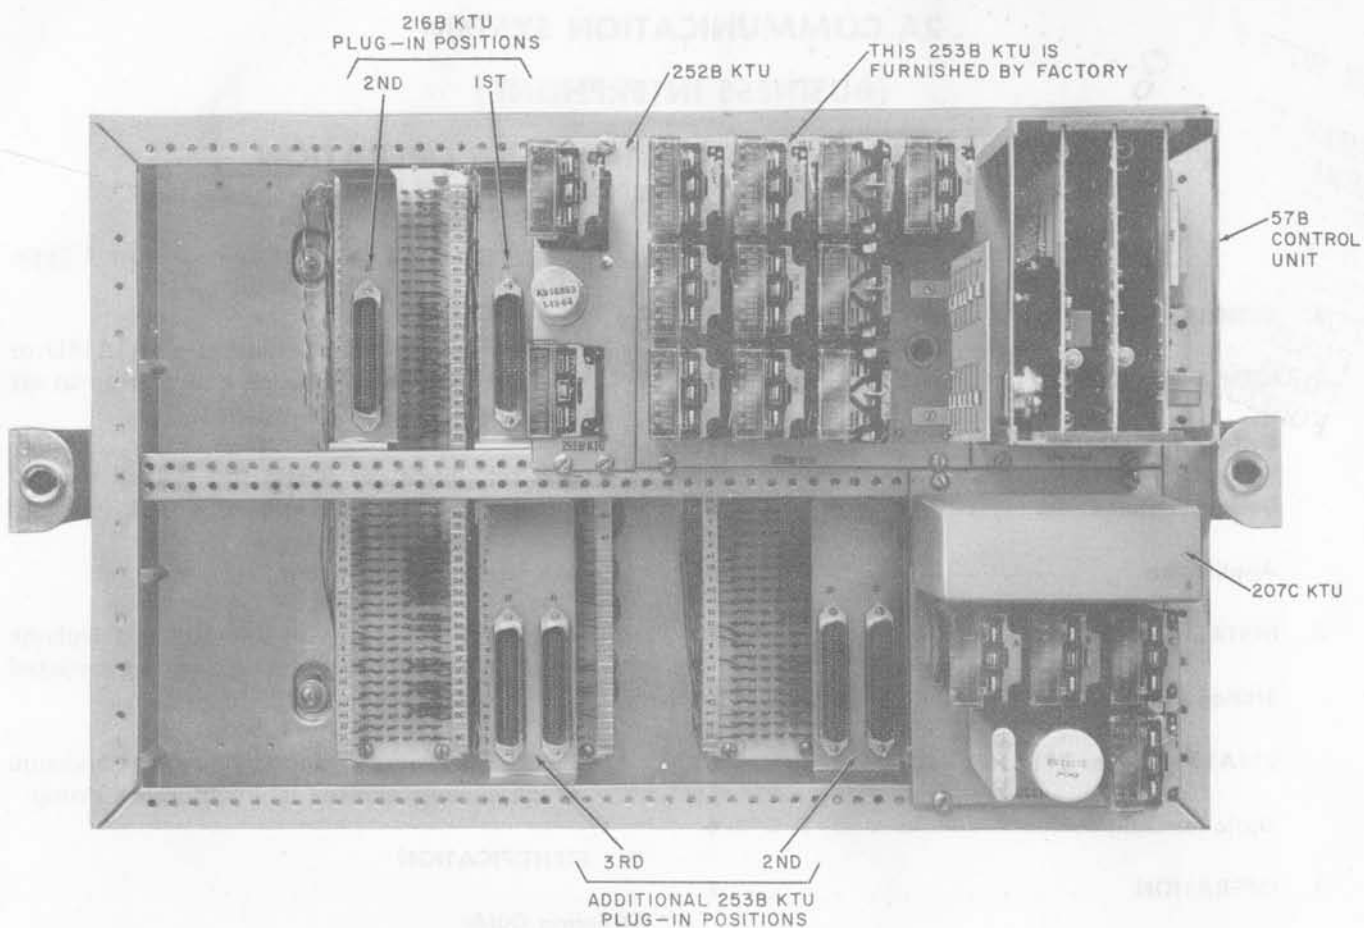

Fig. 1—311A16D Key Service Unit
- Unit, Service, Key, 311A16D (Fig. 1) or 311A15 (MD) (Fig. 2)
**311A15 (MD) or 311A16D KSU**
- (b) KSU is equipped for six stations. Install a 216B and 253-type KTU for each additional six stations at the locations shown in Fig. 1 and 2.